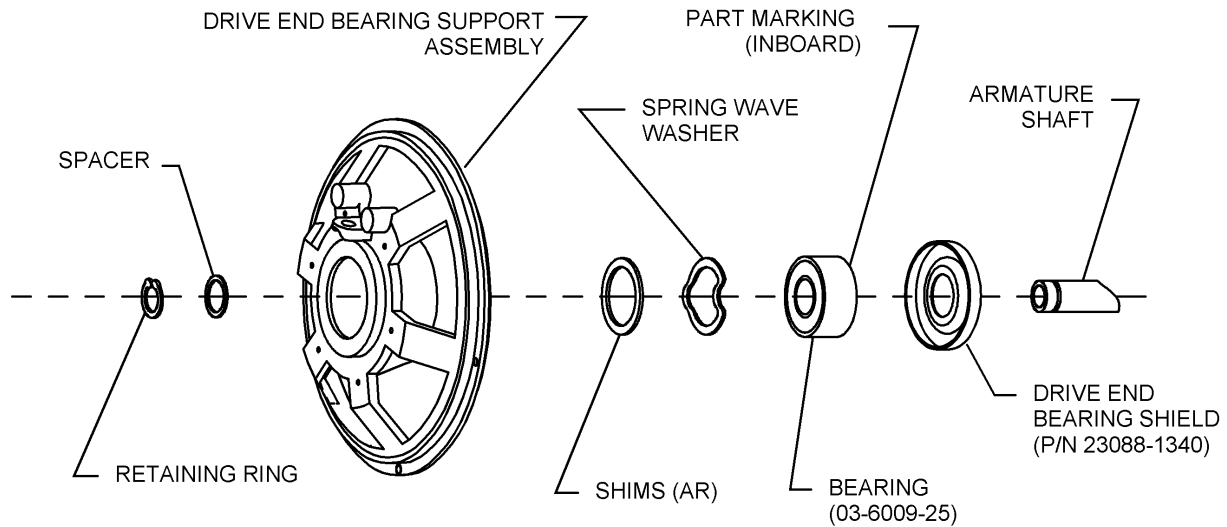

Figure 4 - Drive End Bearing Support Assembly with Preload Stack and Bearing Shield
- (6) Attach bearing and brush support assembly to armature (P/N 23085-1507) according to the ASSEMBLY section of the CMM.
- (7) Calculate and install the shim pack and spring wave washer into the drive end bearing support assembly, and install the bearing and brush support assembly with attached armature into the stator and housing assembly as specified in the ASSEMBLY section of the referenced CMM. Reference Figure 4.
- (8) Install dampener back plate (P/N 23032-2716) on the armature shaft with the recessed side facing away from the starter-generator.
- (9) Install dampener hub (P/N 23032-1916) on drive shaft (P/N 23078-1840).